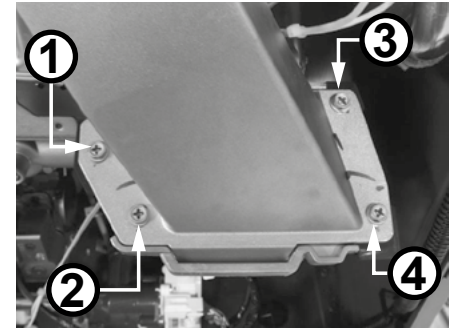

Figure 9 - Remove fan assembly screws
- 11** Locate the four (4) screws securing the fan assembly to the burner assembly as shown in Figure 9. Use a Phillips screwdriver to remove the screws. Place the screws aside in a safe place for reinstallation.